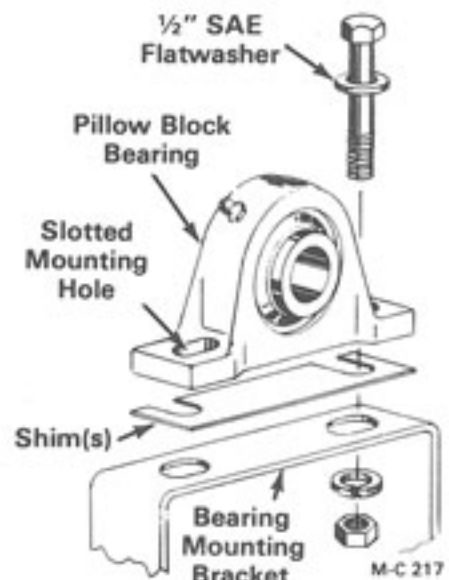

Figure 33
- A. **Pulleys are out of alignment vertically** Raise or lower the output shaft and bearings as required by adding or removing shims under the bearings, see Figure 33.
- B. **Pulleys are out of alignment horizontally** Loosen the bearing mounting capscrews and move the output shaft and bearings forward or back as required. The bearing mounting holes are slotted for this purpose, see Figure 33.